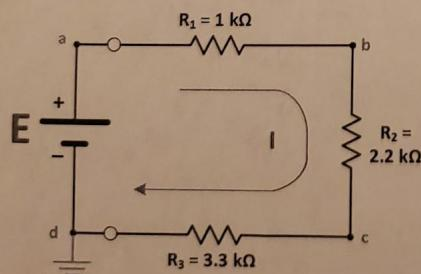

Figure 2.0a: Circuit reference node at "d"
- (i) For the circuit shown in **Figure 2.0a**, the input D.C. source voltage,  $E = 15 \text{ V}$  and node "d" is selected as the *reference node* connected to the circuit ground,  $V_d = 0 \text{ V}$ . Calculate the current,  $I$  and the voltage at node "a" ( $=V_a$ ), node "b" ( $=V_b$ ), and node "c" ( $=V_c$ ) with respect to the ground *reference node*. From these node voltages, calculate the resistor voltages,  $V_{ab}$ ,  $V_{bc}$ , and  $V_{cd}$  across resistors  $R_1$ ,  $R_2$  and  $R_3$ , respectively. Record all the results in **Table 2.0**.
- (ii) Construct the circuit of **Figure 2.0a** in MultiSIM. With node "d" as the *reference node*, measure the current,  $I$ , the node voltages  $V_a$ ,  $V_b$  and  $V_c$ , and the voltages across  $R_1$  ( $=V_{ab}$ ),  $R_2$  ( $=V_{bc}$ ), and  $R_3$  ( $=V_{cd}$ ), respectively. Record all the results in **Table 2.0**.
For Figure 2.0a and b everything stayed the same except  $V_a$ ,  $V_c$ , and  $V_d$  due to the reference node which caused the voltage across  $V_d$  and  $V_c$  to change.